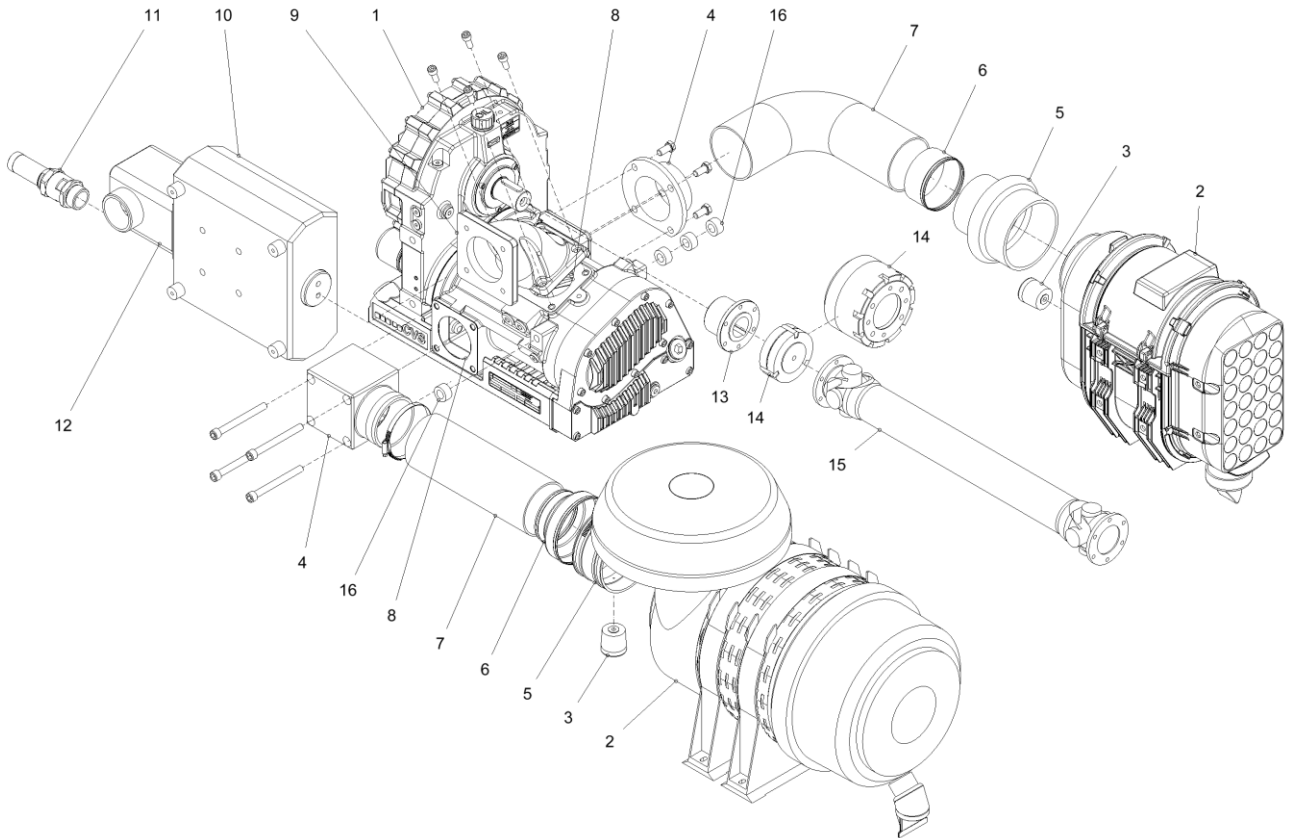

Fig. 5: Compressor with accessories
- The two attachment points lying vertically on top of each other are in one plane. The third attachment point is set back by 15 mm or 45 mm (see Fig. 1 footnote). Suitable spacer elements (see Fig. 5, pos. 16) must be used for screwing.